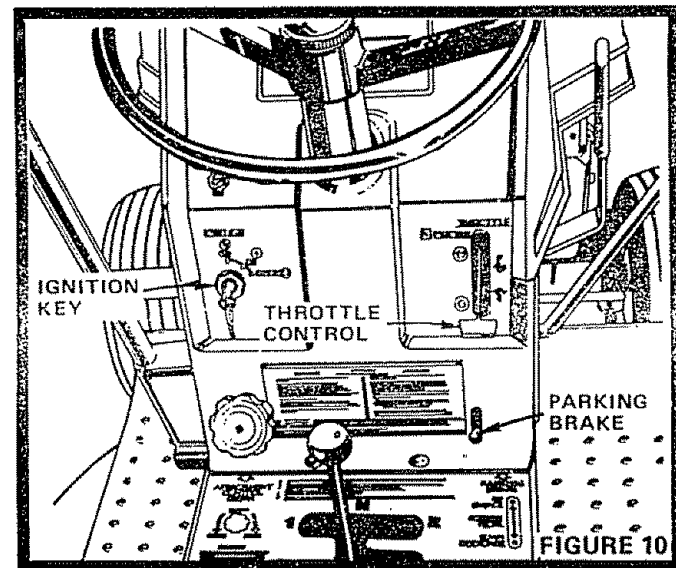

FIGURE 10
- b. Set parking brake (Fig 10)
3. Place Parking Brake in "ENGAGE" position (Fig. 10).
5. Move Throttle Control Lever (Fig 10) to full throttle stop, then to the right and upward for "CHOKE" position. At the "FAST" position the Lever has a stop. The stop is provided so that you will know when you are at full throttle "FAST" position and prevent over travel into choke position.
6. Turn Ignition Key clockwise to "START" position and release Key as soon as engine starts (Fig 10). Immediately move Throttle Control Lever mid-way between "F" and "S" positions.
Move Throttle Control mid-way between "F" and "S" positions (Fig. 10). As engine warms up, move Throttle Control Lever to "F" position. NOTE: ALLOW ENGINE TO WARM UP FOR A FEW MINUTES BEFORE OPERATING.